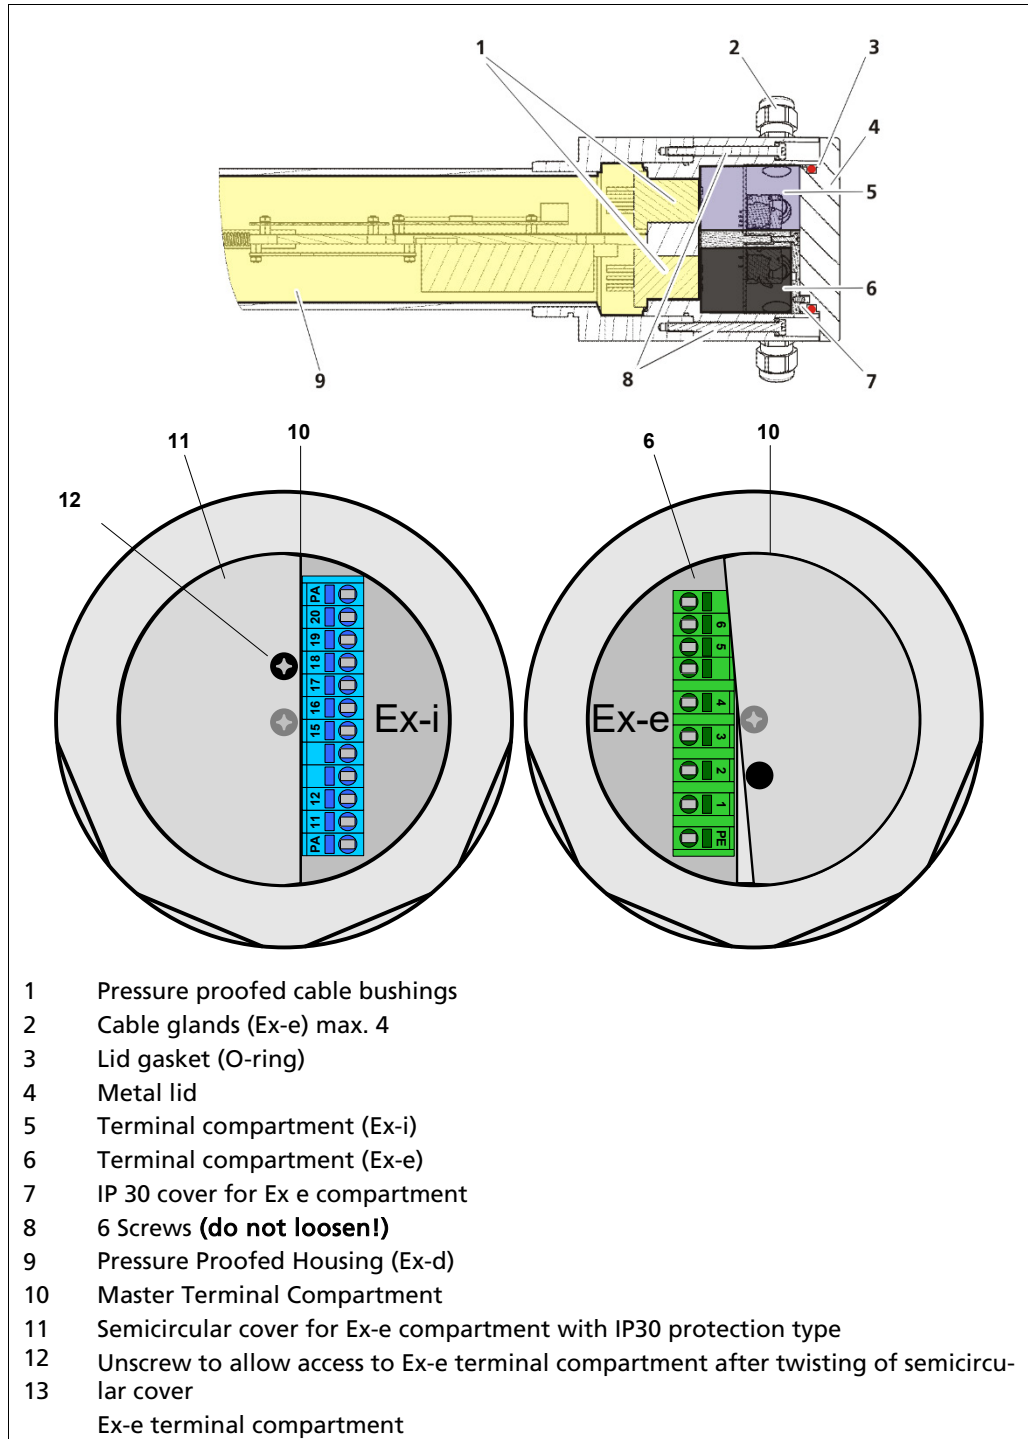

Fig. 3 Ex-i - Concept LB 480-xx-3C, LB 480-xx-4C
- The housing cover (metal lid) covers the entire terminal compartment (see Fig. 3).
- The semicircular plastic cover (Ex-e cover) covers the non-intrinsically safe terminals (see Fig. 3).
5.6.3 Explosion Proof (XP)